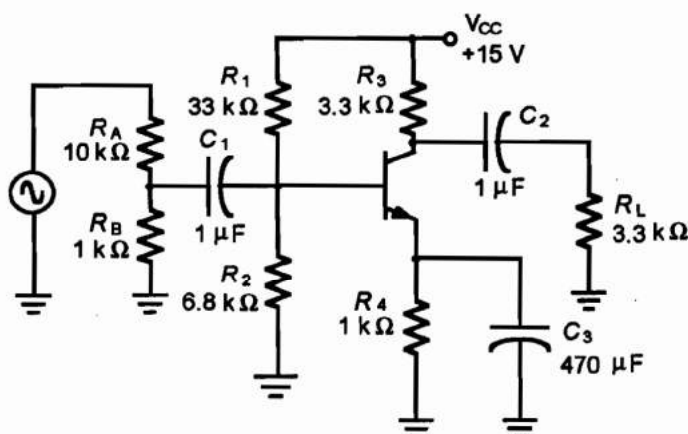

Figure 22.1
1. Construct the circuit in Figure 22.1
1. Starting with the circuit of Figure 22.1, place a jumper wire to short the output capacitor, C_2 .